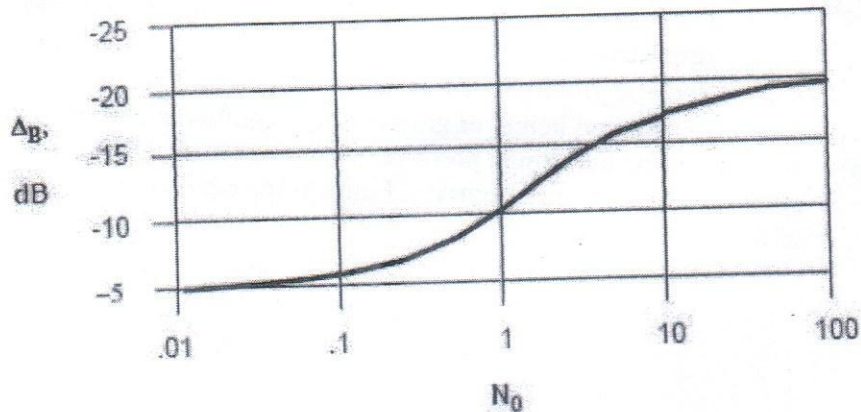

Figure 6: Barrier attenuation vs Fresnel Number for infinitely long barrier
- The surrounding ground can be considered exerting moderate reflection ($\alpha = 0.25$). The roadway has 8.5 ft high side railing made of 4 inch thick concrete wall (TL 36 dBA). Assume same amount of traffic flow (vph) in both lane. Find out the equivalent noise level in dBA at ground level of a residential house 60 ft distance from the centerline of the roadway. Use **Table 1** for modeled height for different vehicle types and **Figure 6** for barrier attenuation. (3)